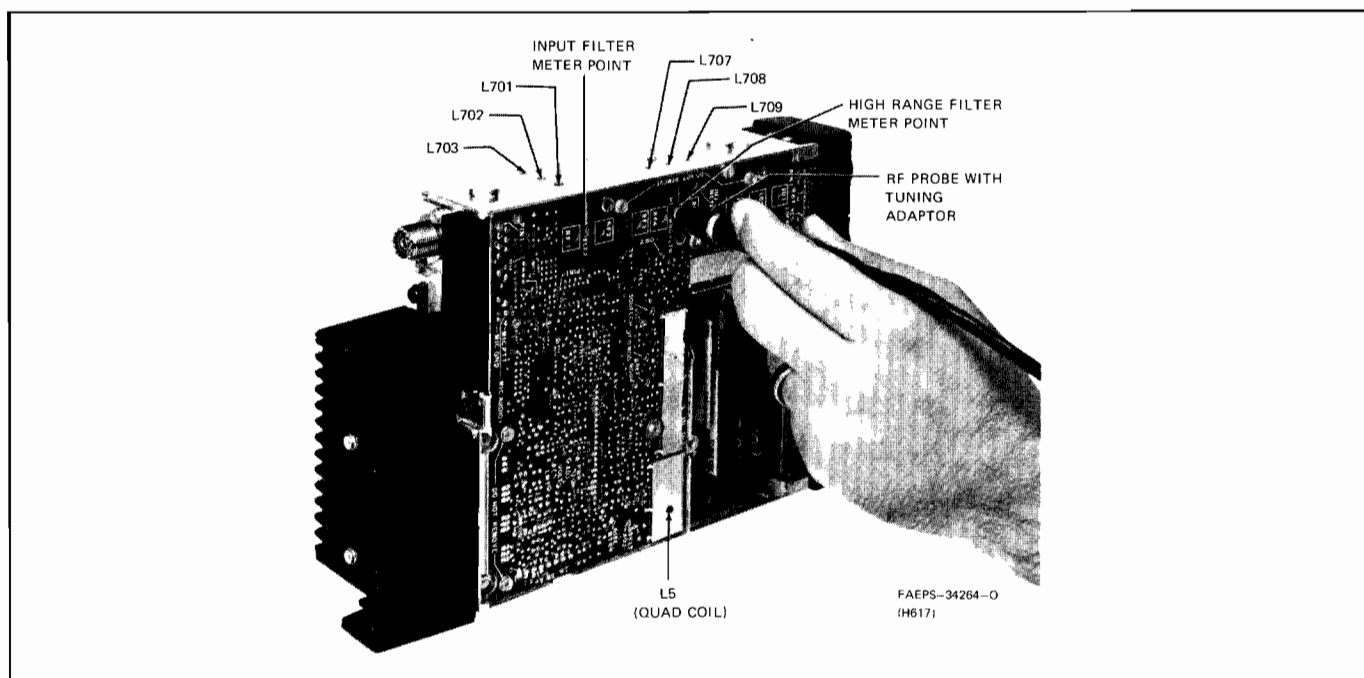

Figure 1. Main Board Side Tuning Probe Positions
Step 1. Using a screw driver, carefully turn the slugs of coils L701, L702, L703, L707, L708, and L709 clockwise (inward) until the adjusting screws are flush with the torque nuts on the rf deck housing. (Refer to Figure 1. for coil locations.)
Step 6. Adjust L5 (quad coil) until maximum noise level is obtained from the speaker, or the highest reading on the voltmeter is obtained. (See Figure 1 for L5 location.)
Step 10. Place the radio into the position shown in Figure 1 and insert the tuning probe into the input filter (INPUT FLTR) metering point. Connect the ground clip to the radio chassis.
Step 13. Decrease signal generator output to -10 dBm (71 mV). Insert tuning probe into high range filter (H1 RNG FILTER) metering point as shown in Figure 1.
Step 6. Adjust L5 (quad coil) until maximum noise level is obtained from the speaker, or the highest reading on the voltmeter is obtained. (Refer to Figure 1 for L5 location.)
Step 10. Place the radio into the position shown in Figure 1, and insert the tuning probe into the input filter (INPUT FLTR) metering point. Connect the ground clip to the radio chassis.
Step 13. Change the signal generator output to high filter tune-up frequency, and move meter probe to high range filter (HI RNG FLTR) metering point as shown in Figure 1.